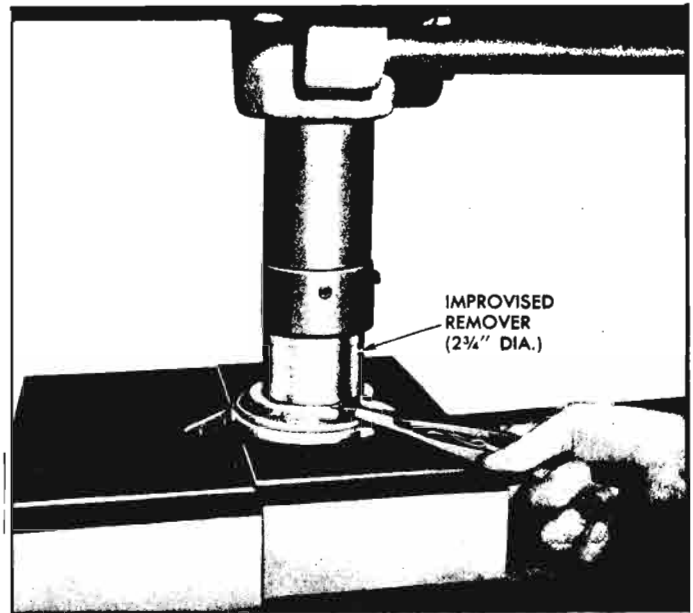

Fig. 6D-41—Pressing Rear Bearing from Bearing Retainer
2. Install blocker ring in rear of 1-2 synchronizer, being sure that notches in blocker ring engage keys in synchronizer unit. It should be noted that blocker rings used in the 1-2 synchronizer have slightly longer hubs (fig. 6D-43) than those used
in the 3-4 synchronizer. Then slide first speed gear (fig. 6D-44) and its thrust washer onto mainshaft.